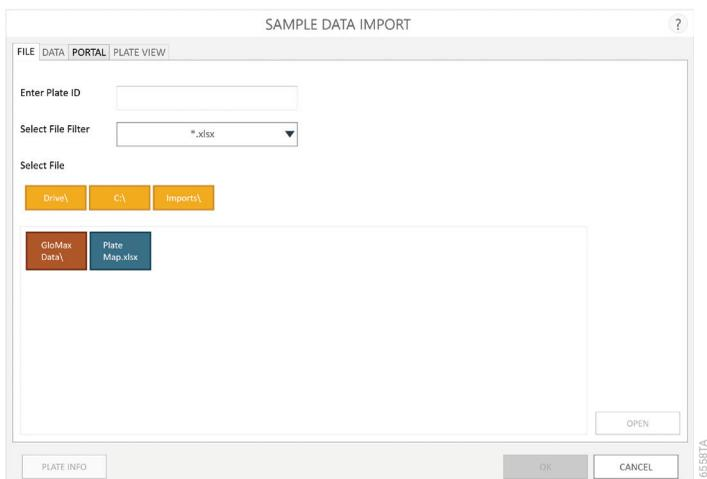

Figure 37. 'Sample Data Import' screen. First screen shown when importing a plate map into the GloMax[®] Software.
3. Tap the **Import** button located on the right side of the 'Protocol-specific' screen (Figure 36) to display the 'Sample Data Import' screen (Figure 37).
4. On the ‘Sample Data Import’ screen (Figure 37) provide the following information: